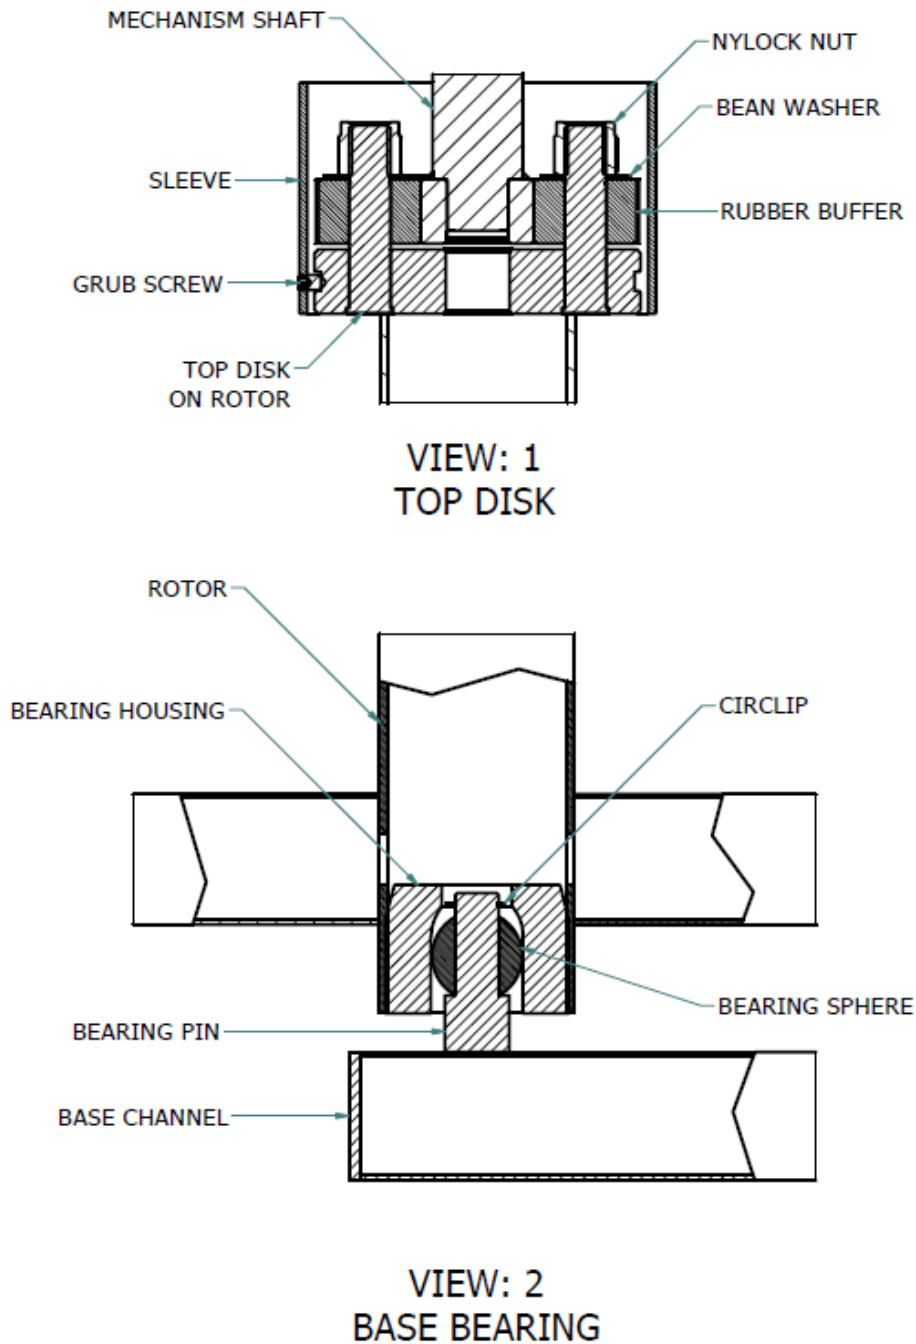

Figure 22: Views on Top Disk & Base Bearing
- 8.1. The rotor is suspended from the mechanism, and only requires a bearing sphere at the base to keep it centralised. See Figure 22: Views on Top Disk & Base Bearing, view 2. Lower the rotor onto the bearing sphere, with the rotor internal bush keeping it centric.